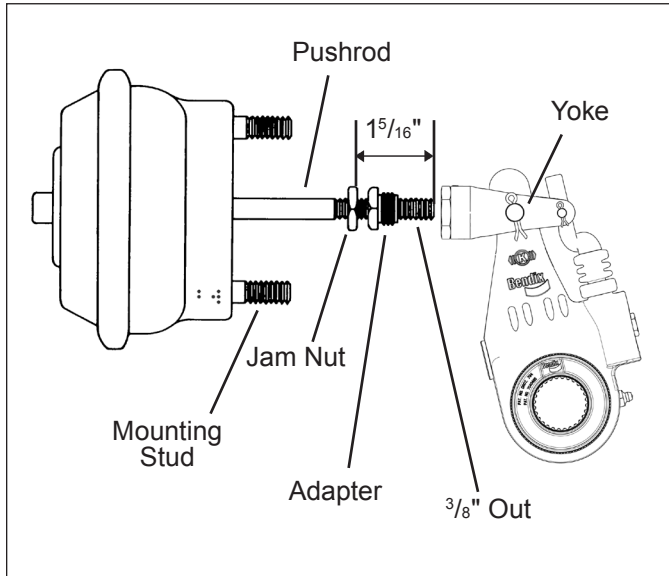

Figure 2 - Easy-On Yoke Assembly
EASY-ON YOKE (REFER TO FIGURE 2)
- If the Versajust slack adjuster has the easy-on yoke (see Figure 2), position the brake actuator pushrod jam nut approximately $1\frac{5}{16}$ inches from the end of